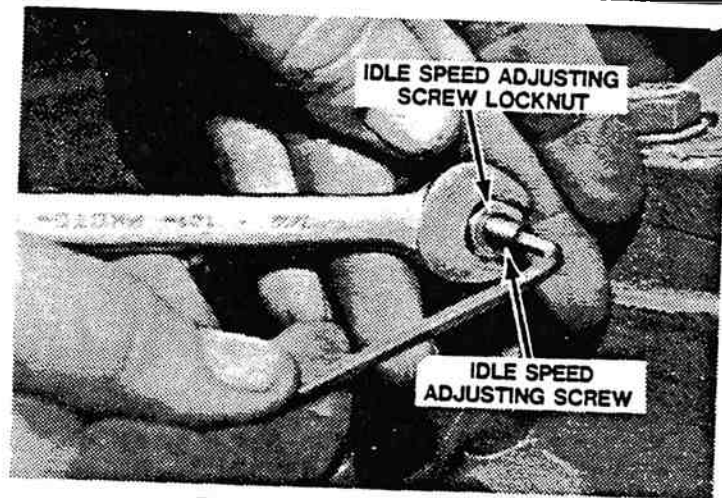

Figure 8-9. Idle Speed Adjustment.
21. Adjust idle speed screw (figure 8-9) until the engine rpm is approximately 15 rpm below recommended idle speed (650 rpm with automatic transmission; 500 rpm with manual transmission).
22. Hold the idle screw and tighten the lock nut (figure 8-9).